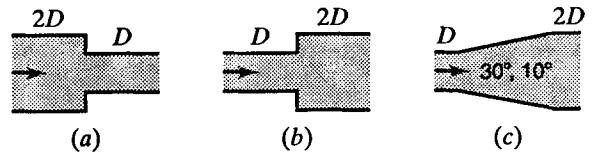

Figure X8.24.1
8.24.1 Two pipes with a diameter ratio of 1:2 are connected in series (Fig. X8.24.1). With a velocity of 6.8 m/s in the smaller pipe, find the loss of head due to (a) sudden contraction; (b) sudden enlargement; (c) expansion in a conical diffuser with a total angle of 30°, and of 10°.